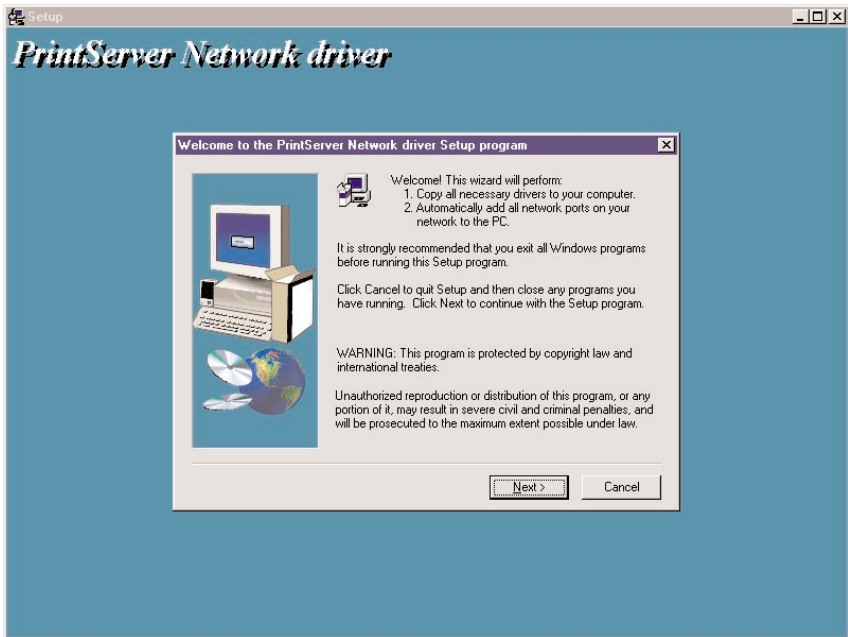

Figure 4-18. Network Driver Setup Program screen.
3. Click on **Client Installation**, and the Network Driver Setup Program window will appear (see Figure 4-18).